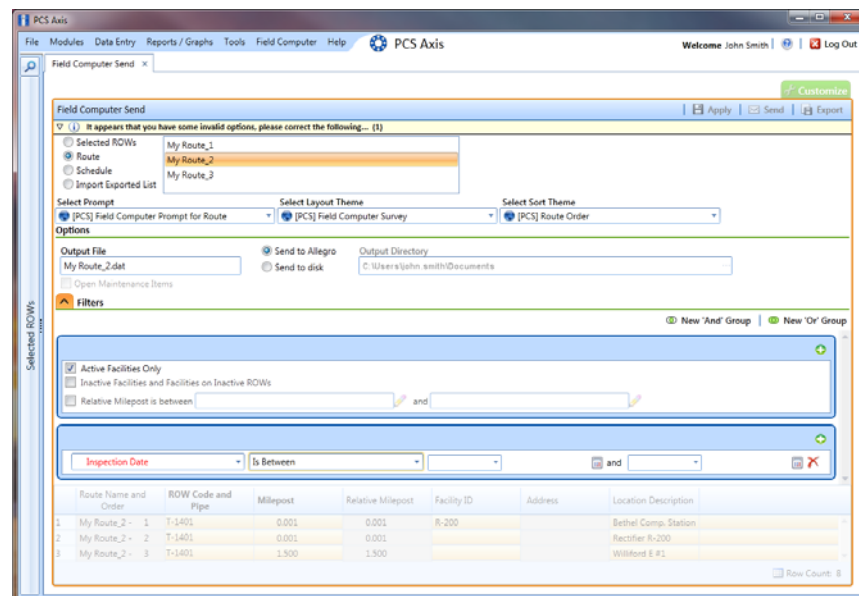

Figure 12-7. New 'And' Filter Group
- 12** If you want to add a new AND filter group, complete the following steps. With an AND filter group, PCS Axis includes a subset of records that meet *all* filter conditions defined for the filter group. Records are filtered in the grid and in the route sent to the Allegro (Figure 12-7).